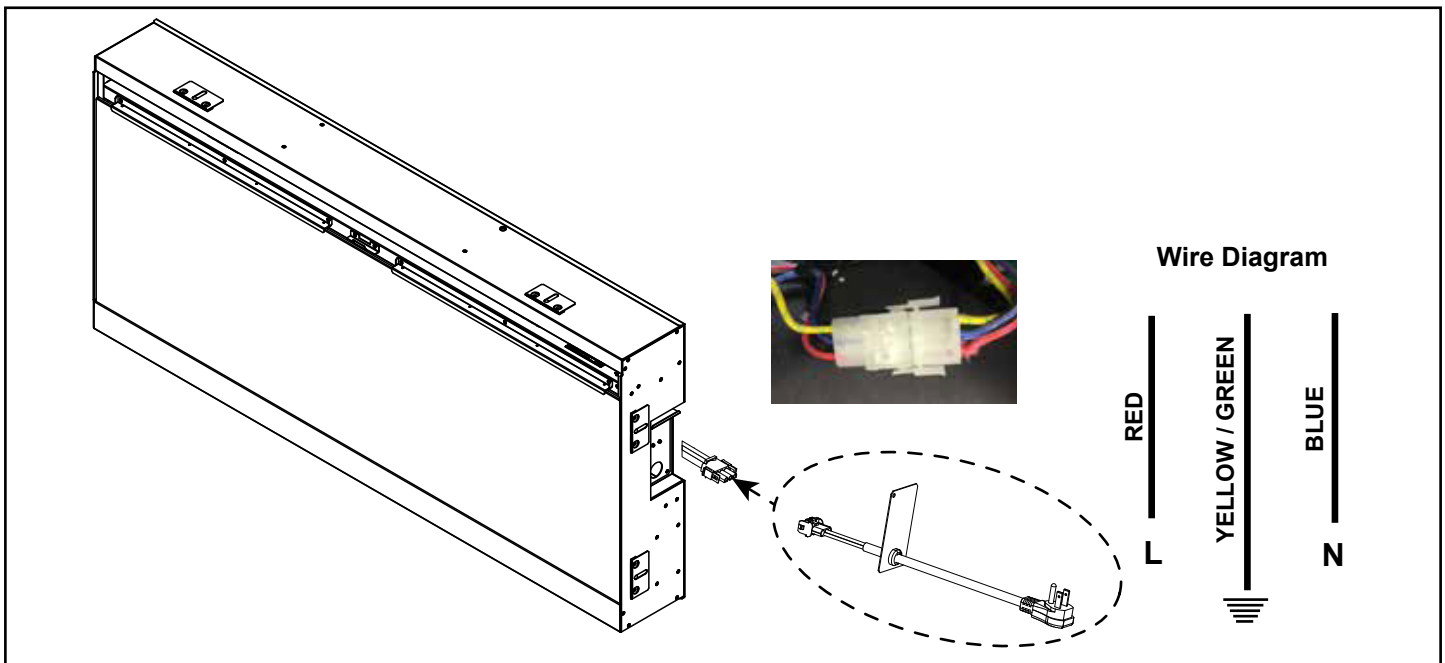

Figure 3.5 Optional Power Cord Installation
3. Connect the three conductor wire connector to the connector on the block supplied with the power cord kit. See Figure 3.5.